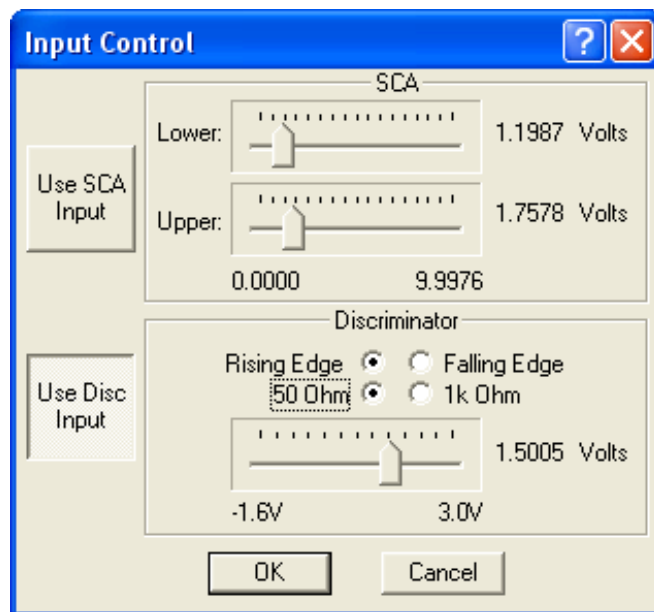

Fig. 12. Input Control Dialog.
- Click on the **Acquire** menu and select **Input Control...**. This will open the dialog shown in Fig. 12.